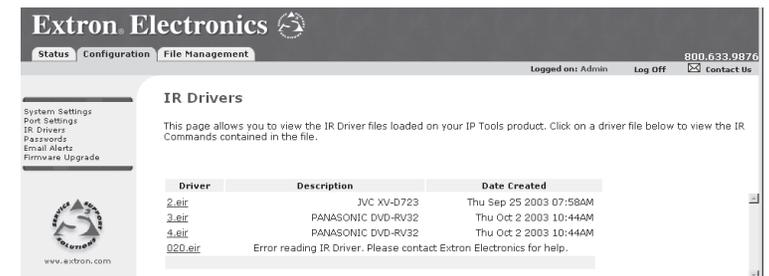

Figure 4-12 — IR Driver screen
4. Click IR Drivers on the menu (on the left side of the window) and the IR Drivers screen (figure 4-12) is displayed. All uploaded IR drivers should be displayed on this page.